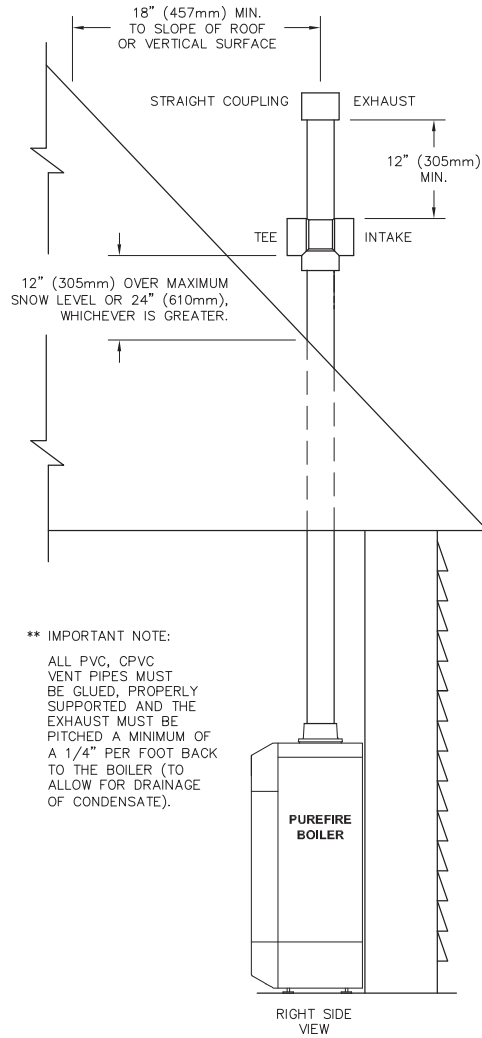

Figure 3.8: Standard Vertical Vent Installation
a. Figure 3.8 shows the approved venting configuration for vertical venting using the standard fittings supplied.
- g. Refer to Figures 3.8 through 3.12 for vertical venting options using PVC or CPVC pipe.